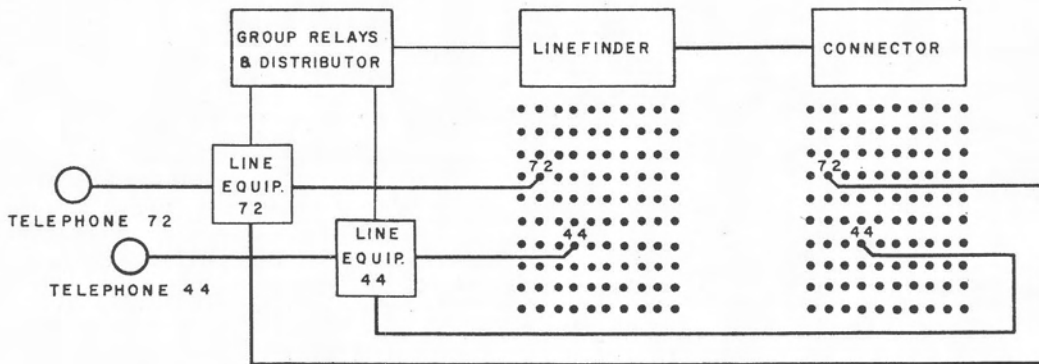

Figure 2. Schematic diagram of 100 line office.
Since the linefinder is a non-numerical switch and will not respond to the pulses of a subscriber's dial, it must be connected directly to a numerical switch that will respond to dial pulses. In the case of a one hundred line office, each linefinder is trunked back to back (switch jack to switch jack) with a connector. Through this type of an arrangement, commonly known as a linefinder-connector-link, only one call may take place at a time. Therefore, the number of calls that may take place simultaneously, depends directly on the number of linefinder-connector-links available. Figure 2 illustrates a one hundred line office, showing the termination points for two subscribers, the linefinder-connector-link and other apparatus involved, and the trunking between the apparatus. Only one linefinder-connector-link is shown for illustration, but let us say it represents ten such links.
**3.4 Method of operation.** So that we may better understand how all the equipment functions and the trunking that is necessary to complete a call, let us trace a call through a one hundred line office. In figure 2, when the subscriber on line 44 raises his handset to make a call, his line equipment signals the group relays that a line wants service. The group relays and distributor then assign an idle linefinder to find the line. The wipers of the assigned linefinder step vertical and rotary to connect line 44 through the linefinder to its associated connector. At this point the group relays and distributor drop out of the connection. When the subscriber dials the digits "7" and "2" the connector steps to the seventh level and rotates to the second contact. If line 72 is not busy, the connector switches through and telephone 72 is rung. It should be noted that in this one hundred line office, due to the small amount of apparatus involved, the trunking involved is also small.